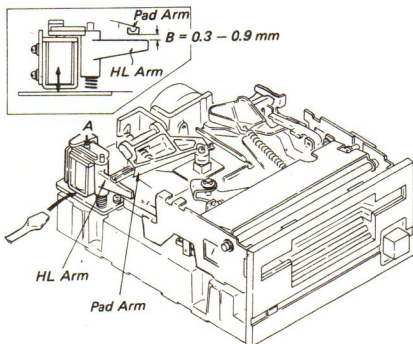

Fig. 5-9 HL Arm Height Adjustment
- d. Push down the plunger core of the head load ass'y at point A. (Refer to Fig. 5-9)
- e. Check if clearance B between the HL Arm and pad arm is set at a value within the range of 0.3 to 0.9 mm. (Refer to Fig. 5-9)
- b. Insert a  $\ominus$  driver beneath the plunger solenoid and slowly push up the plunger solenoid until clearance B becomes the specified value. (Refer to Fig. 5-9)